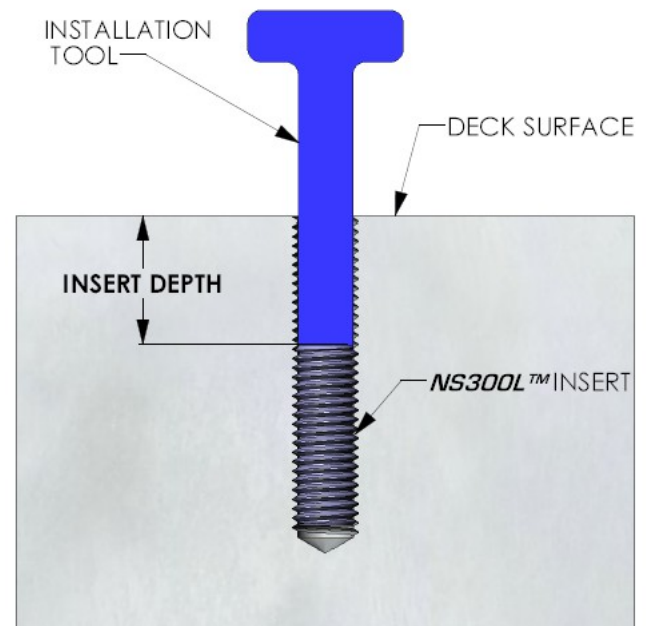

FIGURE 4
7. Blow all chips from newly threaded hole. Clean the threaded hole and insert with contact cleaner or brake cleaner. Check insert depth by installing an insert using the “T” shaped Installation Tool provided in your kit *prior* to adding thread Threadlock. Measure from the top of the deck surface down to the top of the insert as shown in Figure 4. Insure that the top of the insert can be installed to the correct depth as listed below. Remove the insert. Add a couple drops of Threadlock to the newly threaded hole approximately ½” to ¾” from the deck surface. Add thread lock to the outside diameter of the insert. **DO NOT GET THREADLOCK ON THE INTERNAL THREADS OF THE INSERT.** Install the insert with the installation tool, making certain the top of the insert is installed to the correct depth as shown in figure 4. Allow Threadlock to set for 2-3 hours before installing the head bolts. Insure there are no sharp edges protruding up from the newly threaded holes before installing the head gaskets and alignment bushings.